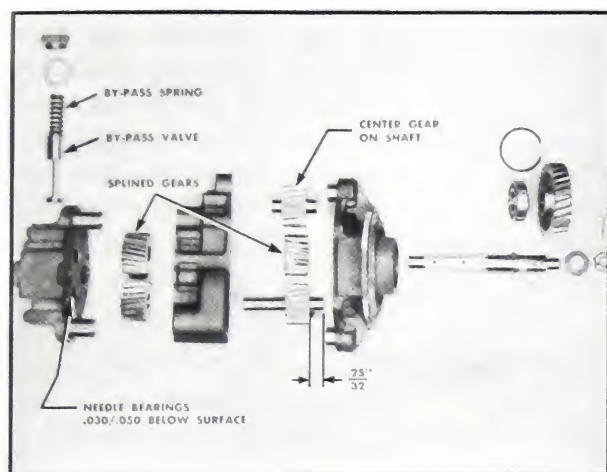

Fig. 7-4. Triple lube pump-five gears
2. Lift out the by-pass valve spring and valve. Fig. 7-4.